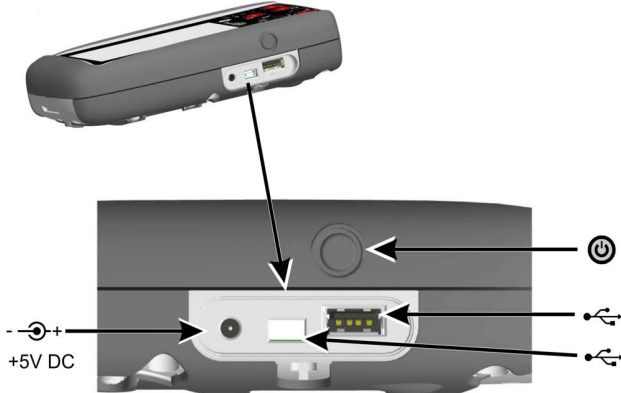

Figure 1-5: DPI620G Power Button and Ports
1. Push the DC power supply connector into the + 5V DC socket on the side of the unit, see Figure 1-5.